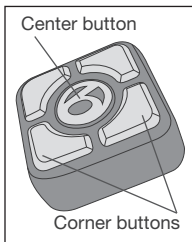

FIGURE 1.1.3
3. Press-and-hold the center button on the Transmtrr Remote for at least 8 seconds. When the corner buttons flash, release the center button. (Figure 1.1.3).